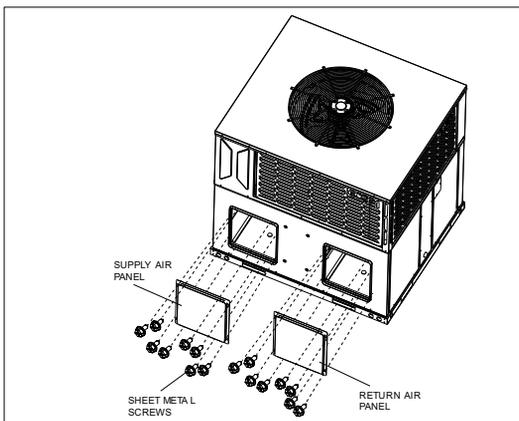

Figure 3.11 Typical Rooftop Downflow Application with Frame
5. On applications when a roof curb is used, the unit must be positioned on the curb so the front of the unit is tight against the curb. If the unit is to be mounted on a curb in a downflow application, refer to Figure 3.11, and convert panels prior to rigging and lifting. The panel removal process may require the unit to be on the ground.